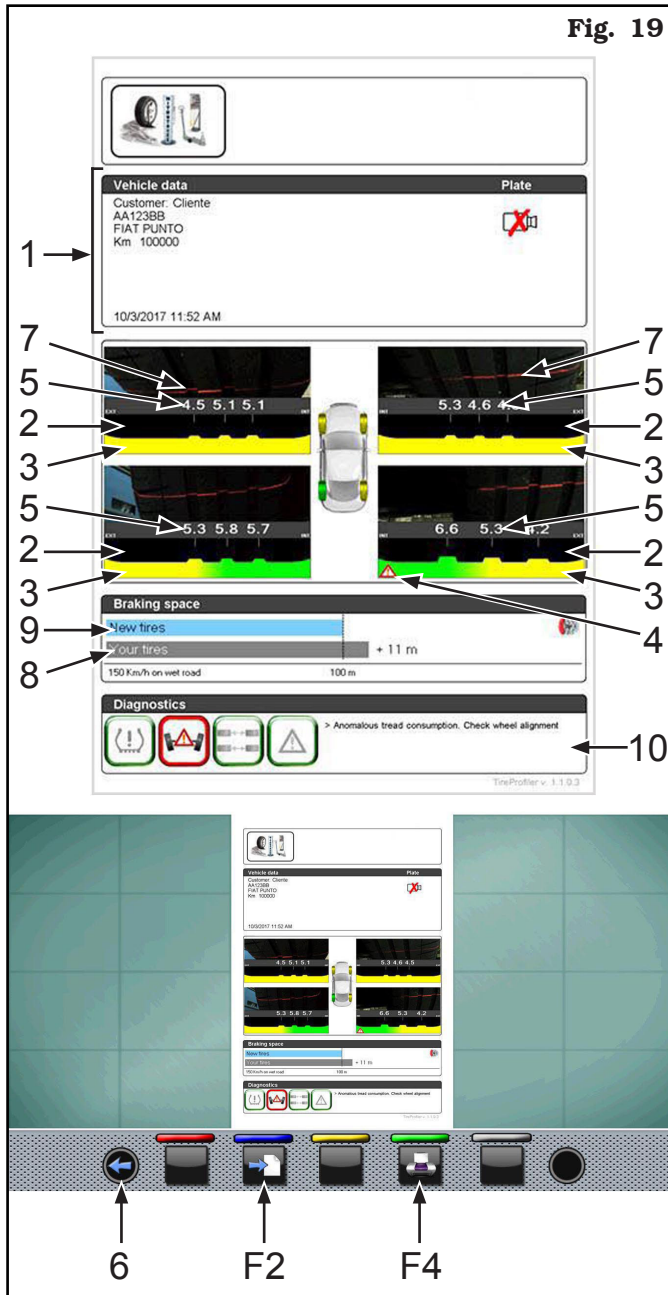

Fig. 19
By pressing “F4” key (see **Fig. 18**) the page for the complete printing is displayed (see **Fig. 19**).
The page of test complete printing shows the data of the customer and of the machine covered by the test (Fig. 19 ref. 1) in addition to the graphic representation of the detection performed on the 4 tyres (Fig. 19 ref. 2).
The coloured bands pictured under tread's profile (Fig. 19 ref. 3) indicate the wear condition of the same tread, in particular:
that displays symbol  (Fig. 19 ref. 4) in the coloured band of the relevant tyre.
The numerical values (Fig. 19 ref. 5) indicated on the tread's profile indicate its "mm" depth in that point. "EXT" and "INT" abbreviations, displayed on the picture, indicate respectively the outer and inner area of the tyre displayed.
Moreover, the page of test complete printing also shows tyre's picture in laser working point (Fig. 19 ref. 7), the braking distance estimated as necessary to stop at 150 km/h on wet asphalt with worn tyres (Fig. 19 ref. 8), the comparison with the braking distance with new tyres (Fig. 19 ref. 9) and the display/description of the faults detected during the scanning (Fig. 19 ref. 10).
By pressing "ESC" key (Fig. 19 ref. 6) the previous page is displayed. By pressing it many times, the start page is displayed.